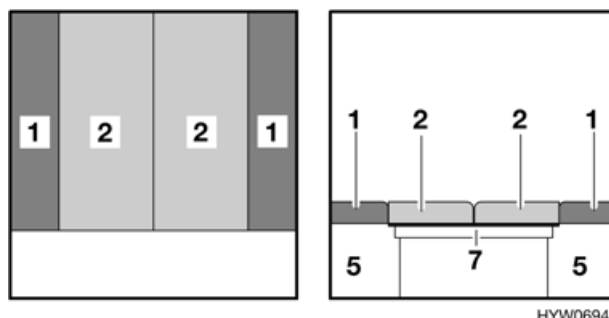

Fig. 48 After conversion
- Insert the back cushions (Fig. 48,1) between the seat cushions (Fig. 48,2) and the exterior wall.